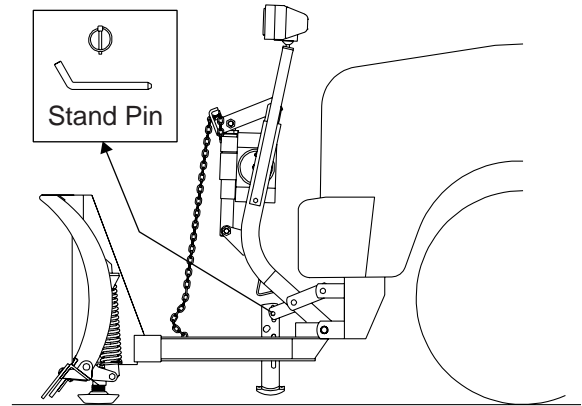

Figure 8
10. Pull the stand pin to release the stand from the lift frame. (See Figure 8.)